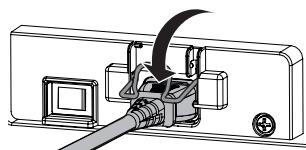

Fig.3
- 3) Lower the power cord holder. (Fig. 3)